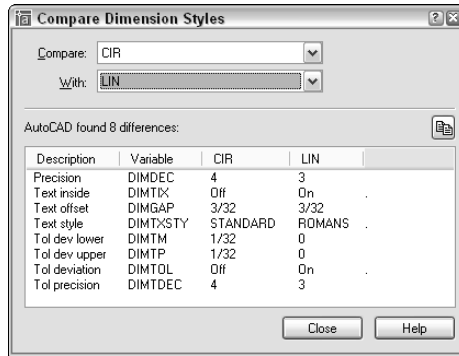

Figure 15-32: The Compare Dimension Styles dialog box enables you to compare the properties of two dimension styles.
1. Choose Dimension Style from the Dimension toolbar and choose Compare. The Compare Dimension Styles dialog box (shown in Figure 15-32) opens.